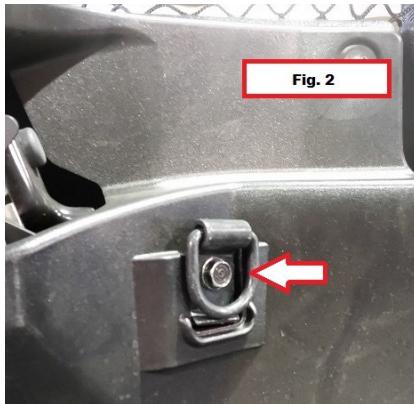

Fig. 2
- 2) Remove 10mm bolt holding D-ring on side panel. Fig. 2